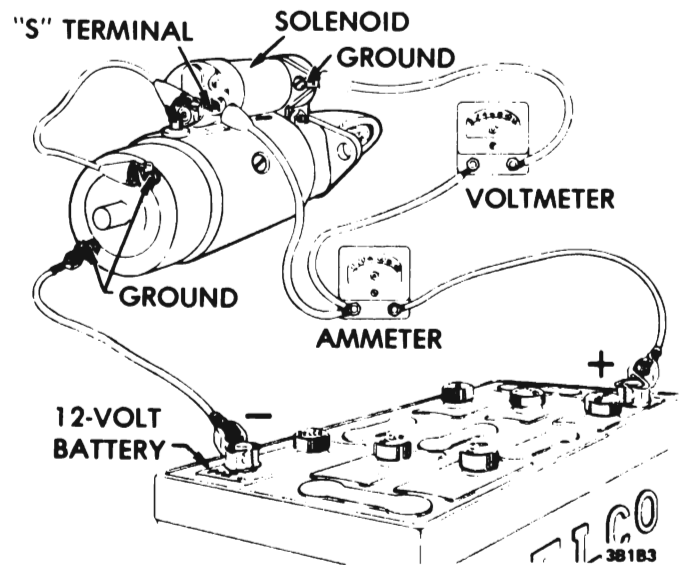

Figure 1B-2 Amperage Test of Solenoid
4. Connect a heavy jumper from the solenoid base to the ground terminal of the battery and a voltmeter between the solenoid base and "S" terminal See Figure 1B-2.